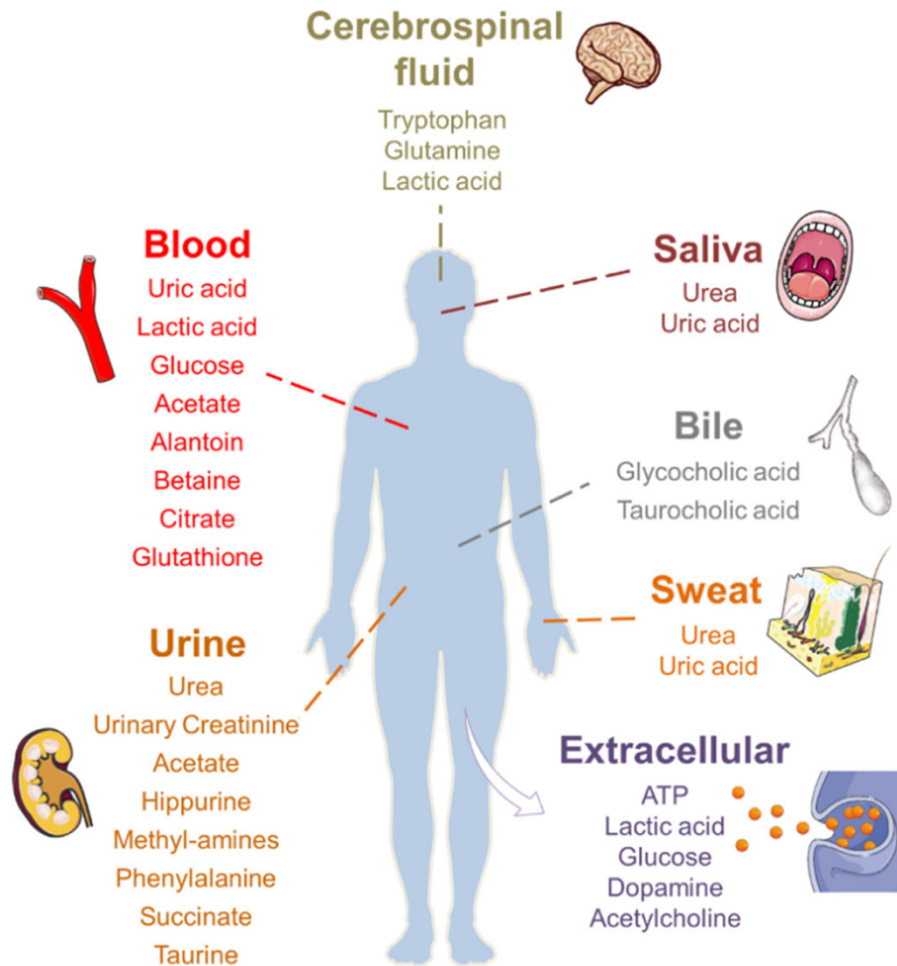

Fig. 1. Common metabolites from biofluids and cells.
Fig. 1: On button left, the operational principle of the proposed free Valproic acid (fVPA) microcantilever biosensor is depicted. On the top left, the top view of the bioMEMS device, including the gold probing beam and the polyimide sensing beam is depicted. On top right, cross-section view of the biosensor highlighting the top and bottom serpentine gauges (R_{top} and R_{bot}) operating on the sensing beam and self-assembled monolayer (SAM) bio linker interacting with the bio-recognition antibodies in the probing beam acquired for selective biosensing measurement. On button right, the simplified block diagram of the readout system, including the on-chip biased half-Wheatstone bridge (yellow box) and the off-chip readout circuitry, including the amplification stage, the low-pass (LP) filter, and the analog to digital converter (ADC).
Fig. 1. The overall scheme of the proposed portable breathalyzer includes the exchangeable nozzle to enable sanitary operation by multiple users, an interchangeable sensor compartment for quick adjustment to enable different biomarker detection, and a segment display to ensure low-power operation when displaying the readings.